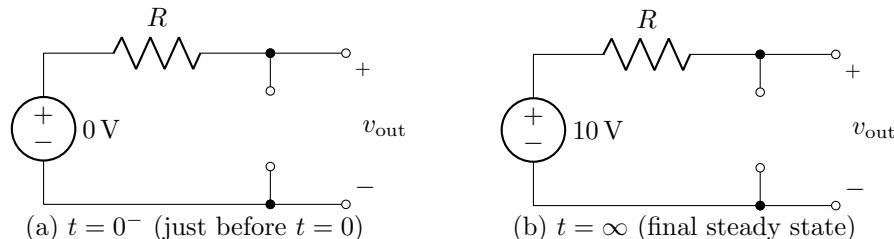

Figure 6.6: Circuit of Figure 6.5 in steady state
- Just before the step in v_{in} from 0 V to 10 V at $t = 0$, the input has (by assumption) been constant for a very long time, so the circuit should have reached steady state. Therefore, the capacitor looks like an open circuit, as shown in Figure 6.6(a). Since there's no current through the resistor, $v_{\text{out}}(0^-) = v_{\text{in}}(0^-) = 0 \text{ V}$.
- Long after the step, if we wait long enough the circuit will reach steady state, then $v_{\text{out}}(\infty) = 10 \text{ V}$, as shown in Figure 6.6(b).